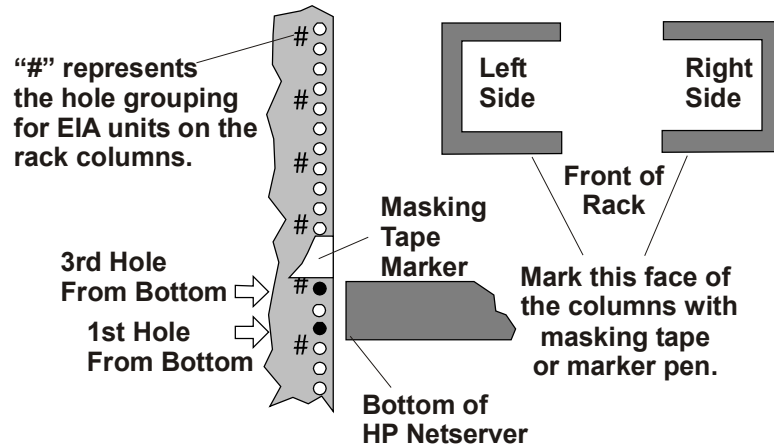

Figure 7-2. Locations on the Rack's Front Columns
1. Use the mounting brackets to help find the Netserver location on the columns, as shown in Figure 7-2.
2. Use the masking tape (or marking pen) to mark above the 3rd hole up the on the face of both front columns, as shown in Figure 7-2.
The masking tape or marking pen (marker) should provide the location of the holes on the two columns. See Figure 7-2.